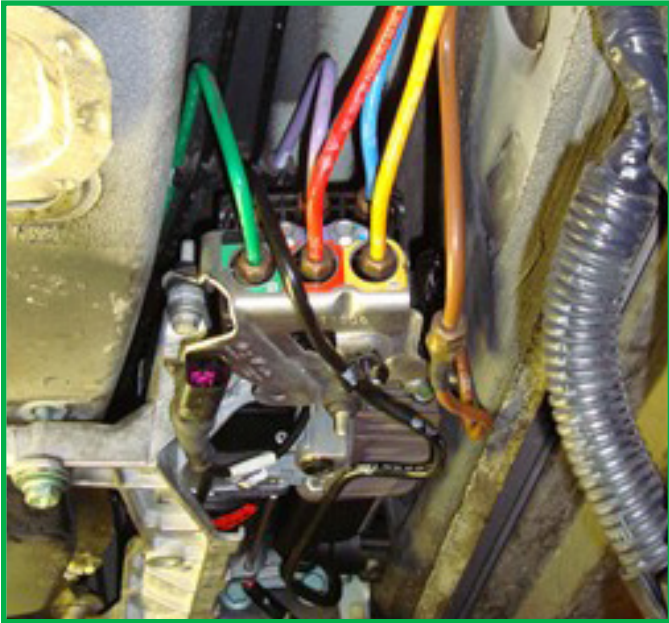

FIGURE 5
7. Disconnect the lines from the air valve block (black line (P) does not have to be disconnected). (Figures 5, 6)
NOTE: Your compressor may not have a brown line as shown in Figures 5 and 6. If the brown line is not present, just disconnect the other (4) lines indicated and proceed to the next step.